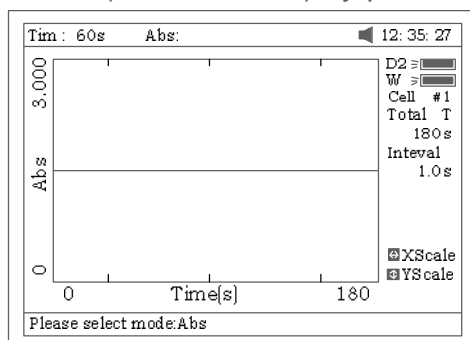

Fig 55
2. Select the test mode (“Abs” or “%T”) by pressing **[F2]** (Fig 55).